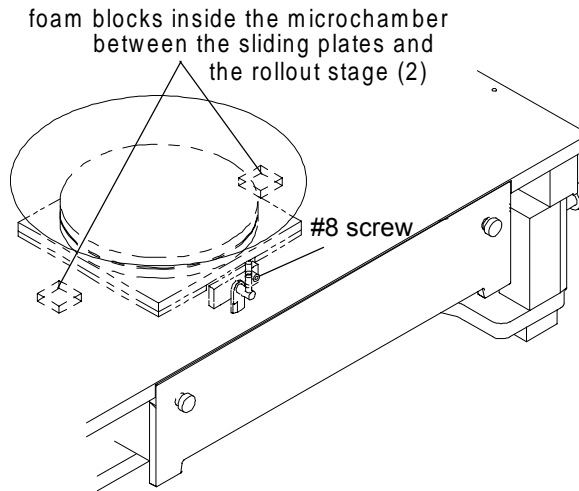

Fig. 13. Shipping restraints between the sliding plates and roll-out stage.
1. Turn the knobs inward and open the door (fig. 13).